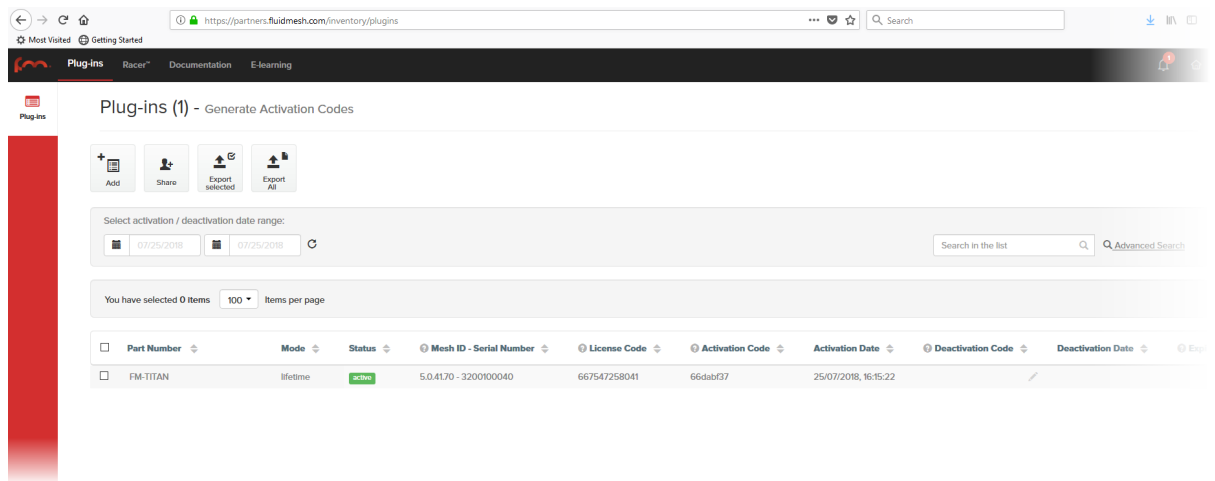

Figure 67. Partner Portal Plug-ins page (License code deactivation)
- The Plug-ins web page will be shown (Figure 67 \(page 154\)).